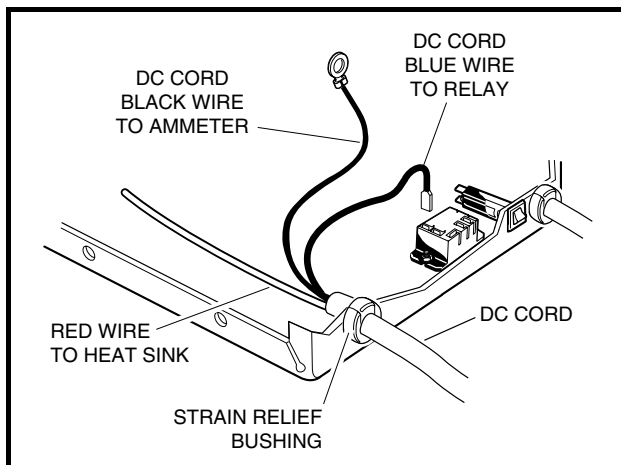

Figure 14-18 DC Cord
2. To check the continuity of the DC cord, disconnect the black wire of the DC cord from the ammeter (**Figure 14-18, Page 14-20**).
3. Disconnect the red wire of the DC cord from the heat sink assembly (**Figure 14-18, Page 14-20**).
4. Disconnect the blue wire from the relay (**Figure 14-18, Page 14-20**).
5. Place the clip of the continuity tester on the red wire of the DC cord (**Figure 14-18, Page 14-20**).
9. Move the continuity tester clip to the black wire of the DC cord (**Figure 14-18, Page 14-20**).
12. Move continuity tester probe to the blue wire of the DC cord (**Figure 14-18, Page 14-20**). Check for continuity at the middle pin. Tester should register continuity. If tester does not register continuity, replace DC cord.
4. Remove nut attaching red lead of charger DC cord onto the heat sink assembly (**Figure 14-18, Page 14-20**).
5. Remove the terminal on the blue charger DC cord lead at the relay (**Figure 14-18, Page 14-20**).
6. Using pliers, squeeze the strain relief bushing and remove the cord set (**Figure 14-18, Page 14-20**).
2. Attach the red lead of the new cord set to the center terminal of the heat sink and tighten the nut to 14 in.lb (1.6 N-m) (**Figure 14-18, Page 14-20**).
3. Attach the blue lead of new cord set to the charger relay (coil) terminal (**Figure 14-18, Page 14-20**).